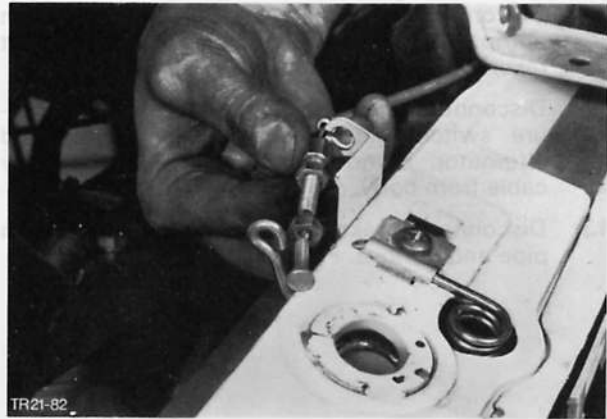

Fig. 16. Unhook hood cable
6. Unhook hood cable at catch end (Fig. 16) and disconnect from radiator grille panel.